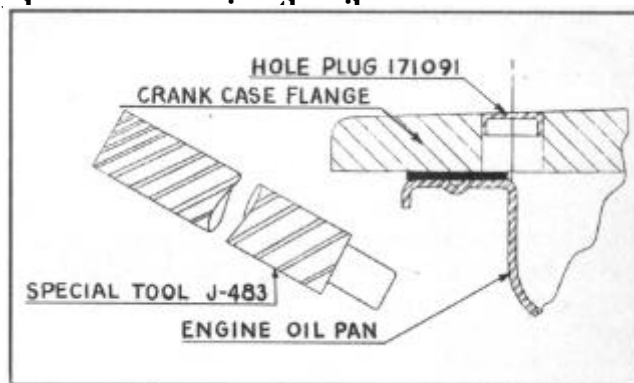

FIGURE 2
**CAUTION:** The cylinder block machining locating hole at the left rear side of the cylinder block base is so located that one half of the hole opens into the crankcase. A cup shaped plug 9/16" outside diameter is used to close this hole after machining, Figure 2.
A new plug can be installed (with J-483 vibration dampener installer tool handle) from below the engine with the oil pan removed, or from above by removing the starter motor; always apply white lead or sealer to the cup before installation; plug should be positioned as shown in Figure 2.